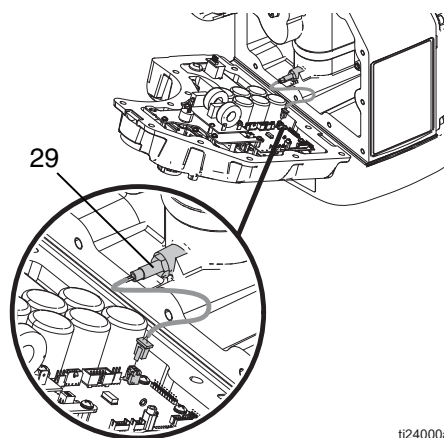

FIG. 20: Stroke Position Wire
- Stroke position sensor wire (29). See FIG. 20 on page 16.